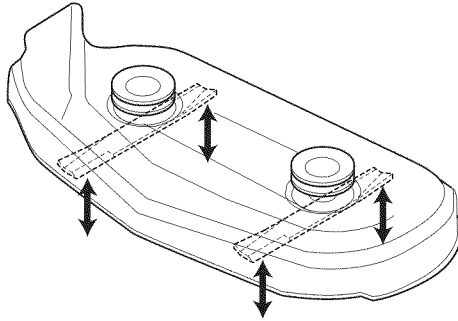

Figure 40. Orient Blades Front-to-Back
1. Turn the blades front-to-back as shown in Figure 40. Measure the distance from the ground to front tip of center blade, and from ground to rear tips of left hand and right hand blades (see Figure 40). Front tips should be 1/8"-1/4" (3-6 mm) higher than rear tips. If not, proceed to step 2.